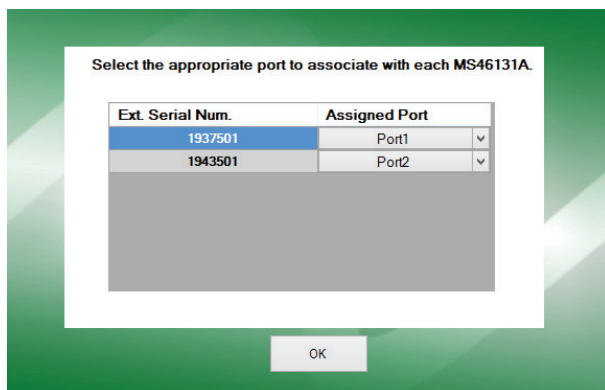

Figure 3-2. MS46131 Port Configuration Dialog Box
3. If multiple MS46131A VNAs are connected, select the appropriate port for each MS46131A VNA. See Figure 3-2.